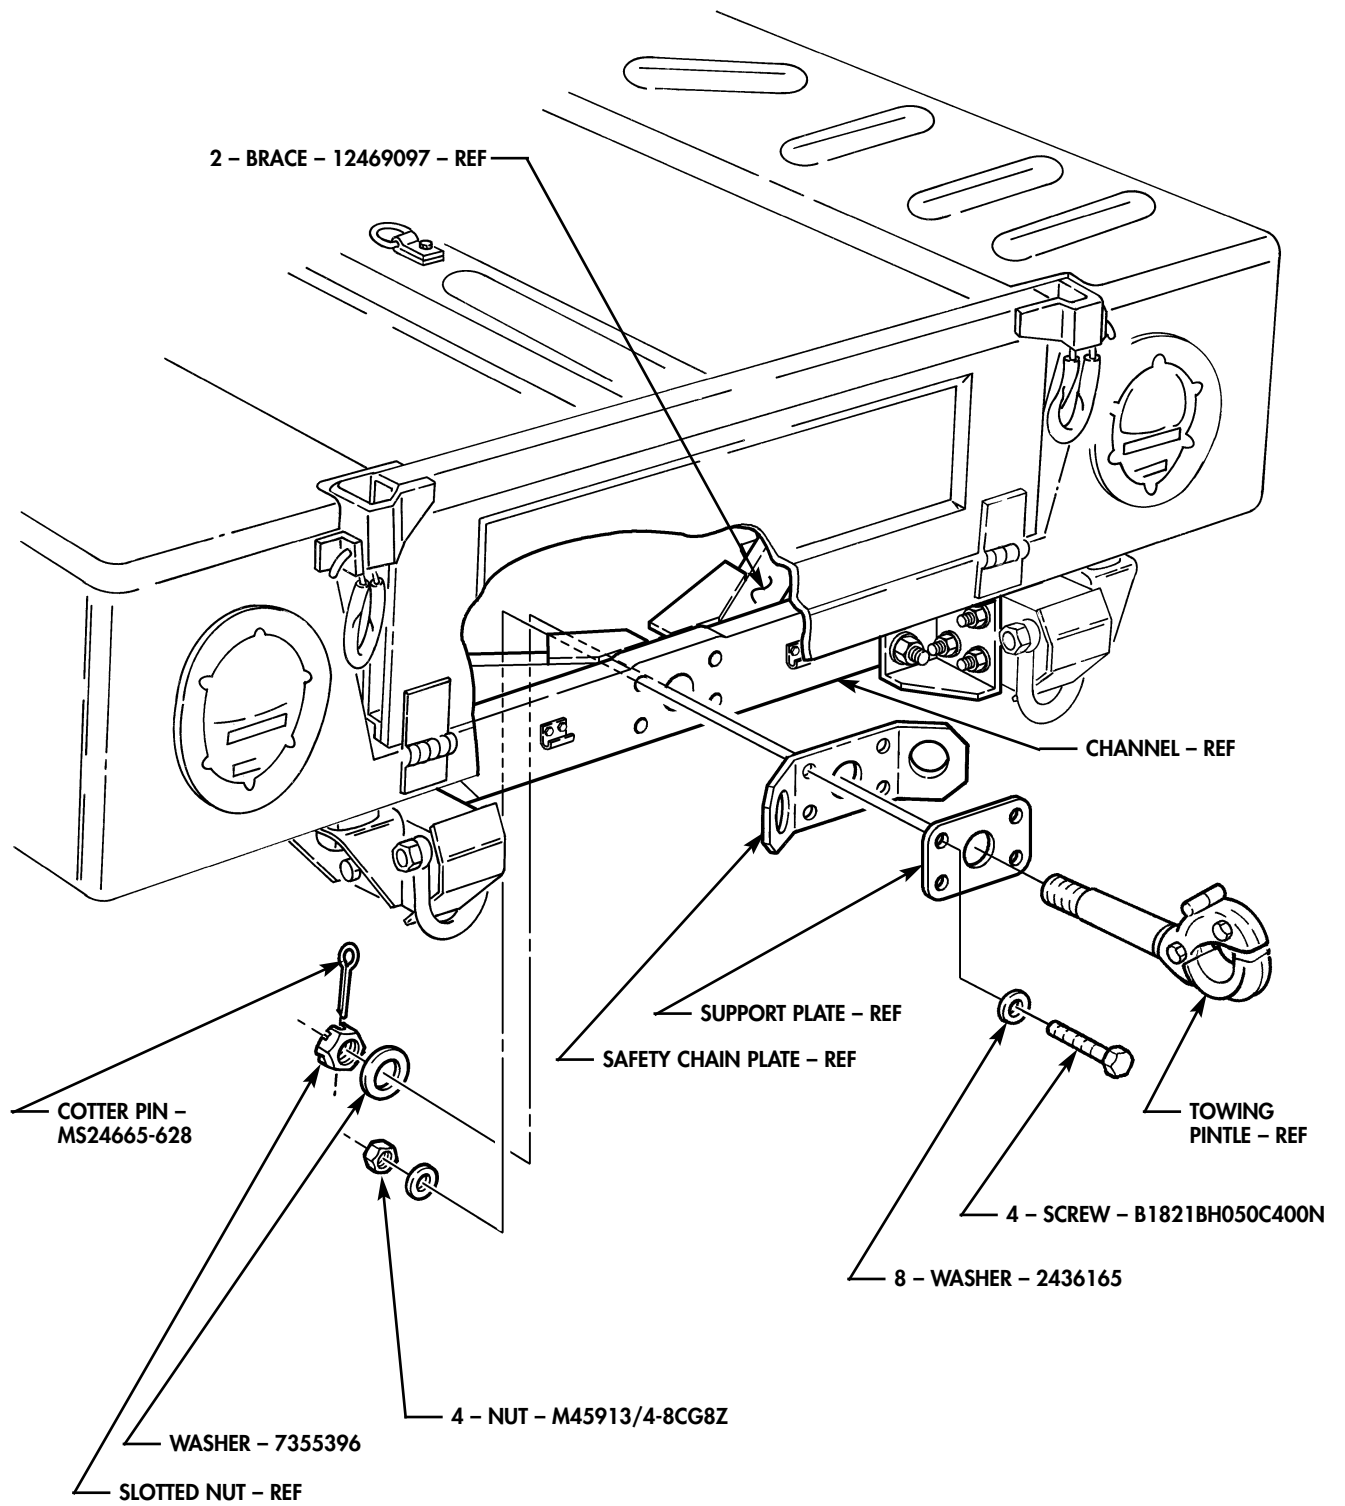

FIGURE 9
- (7) Install existing safety chain plate and support plate on channel with two braces 12469097, four B1821BH050C400N screws, eight 2436165 washers, and four M45913/4-8CG8Z nuts as shown in figure 9. Do not tighten nuts.
- (8) Install towing pintle on channel with 7355396 washer and existing slotted nut and ensure washer is positioned center on bumper and tighten slotted nut as shown in figure 9. Loosen slotted nut slightly if towing pintle will not rotate easily.
- (9) Align hole in towing pintle and slotted nut and install MS24665-628 cotter pin through slotted nut and towing pintle as shown in figure 9.